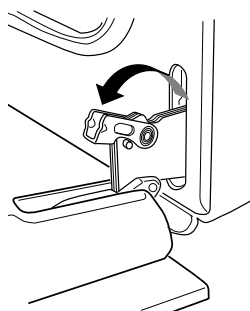

Fig. 2
- 3) lift and turn the levers on the two hinges (Fig. 2);